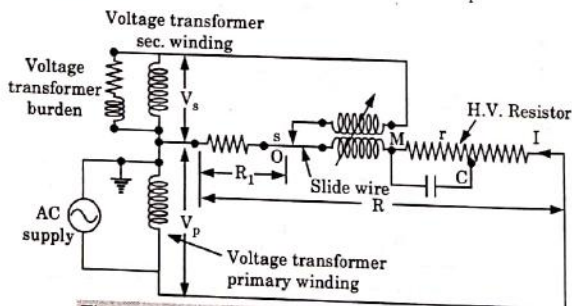

Fig. 3.21.1. Absolute method of testing potential transformers.
1. Fig. 3.21.1 shows the connections for testing a potential transformer using a resistance potential divider.